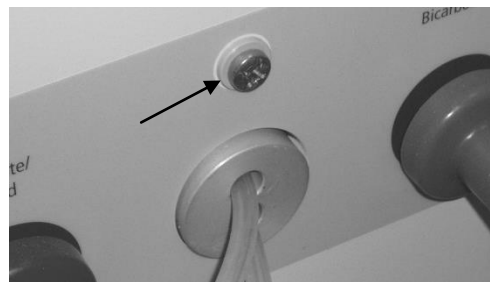

Figure 4 – Front Hydraulic Screw Location
4. Using Figures 4 and 5, locate and remove the three (3) bolts securing the hydraulics in the cabinet.